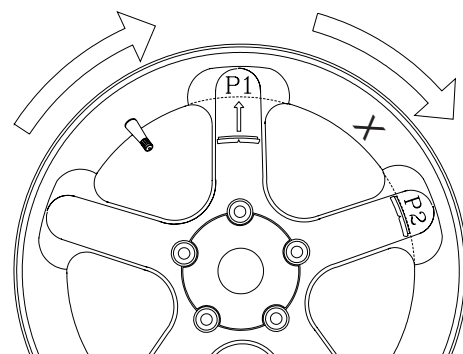

Figure 36
9. The display will read **"P -2"** on its left window and the balance weight amount in right window. Place the weight amount displayed at "position 2" behind the spoke, then rotate the wheel to locate position 1. See Figure 36.